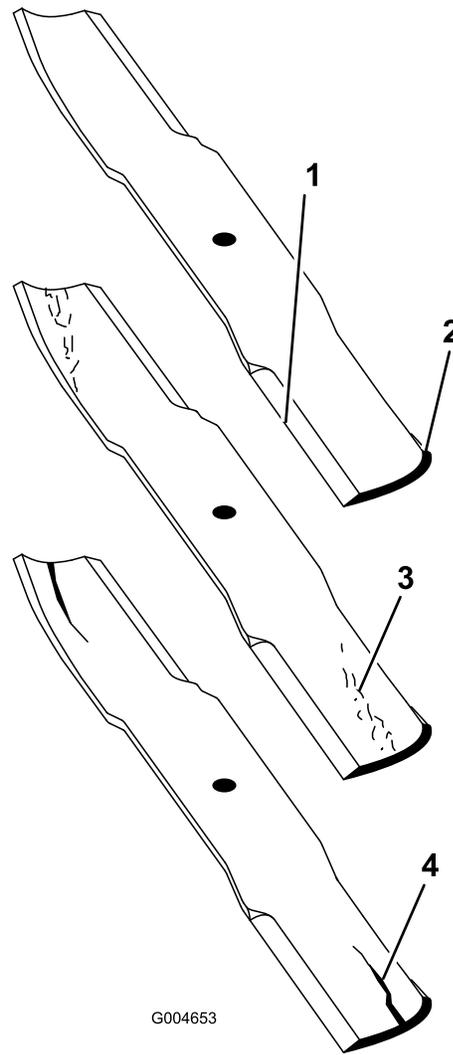

Figure 93
2. Examine the cutting ends of the blade carefully, especially where the flat and curved parts of the blade meet (Figure 93). Since sand and abrasive material can wear away the metal that connects the flat and curved parts of the blade, check the blade before using the mower. If wear is noticed (Figure 93), replace the blade.
If the blade is allowed to wear, a slot will form between the sail and flat part of the blade (Figure 93). Eventually a piece of the blade may break off and be thrown from under the housing, possibly resulting in serious injury to you or bystanders.